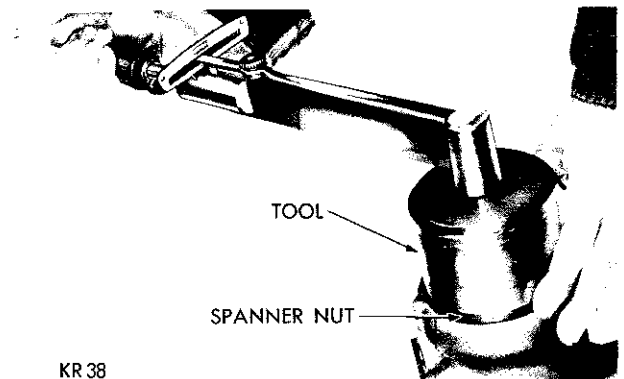

Fig. 5—Removing Steering Column Support Nut
(9) Turn the wormshaft to the full right turn position to compress the power train parts and remove the housing head nut with Tool C-3634 (Fig. 5).